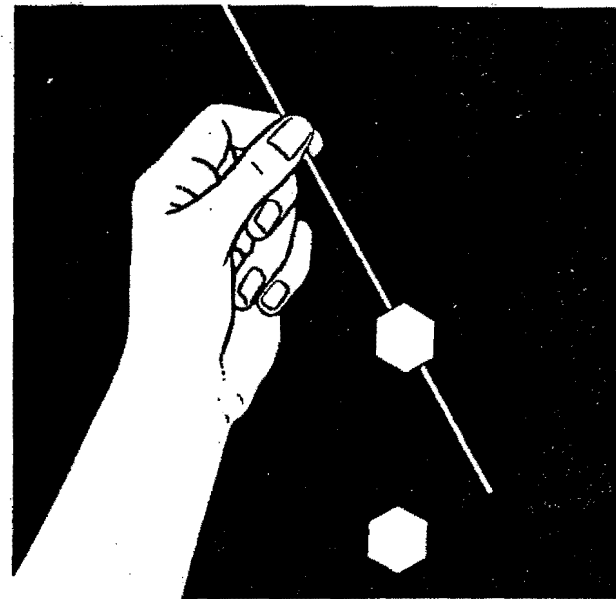

Figure 7-2. Inserting Wire
a. Insert wire of the proper gage through the hole which lies between the three and the six o'clock positions on the bolt head [Figure 7-2].